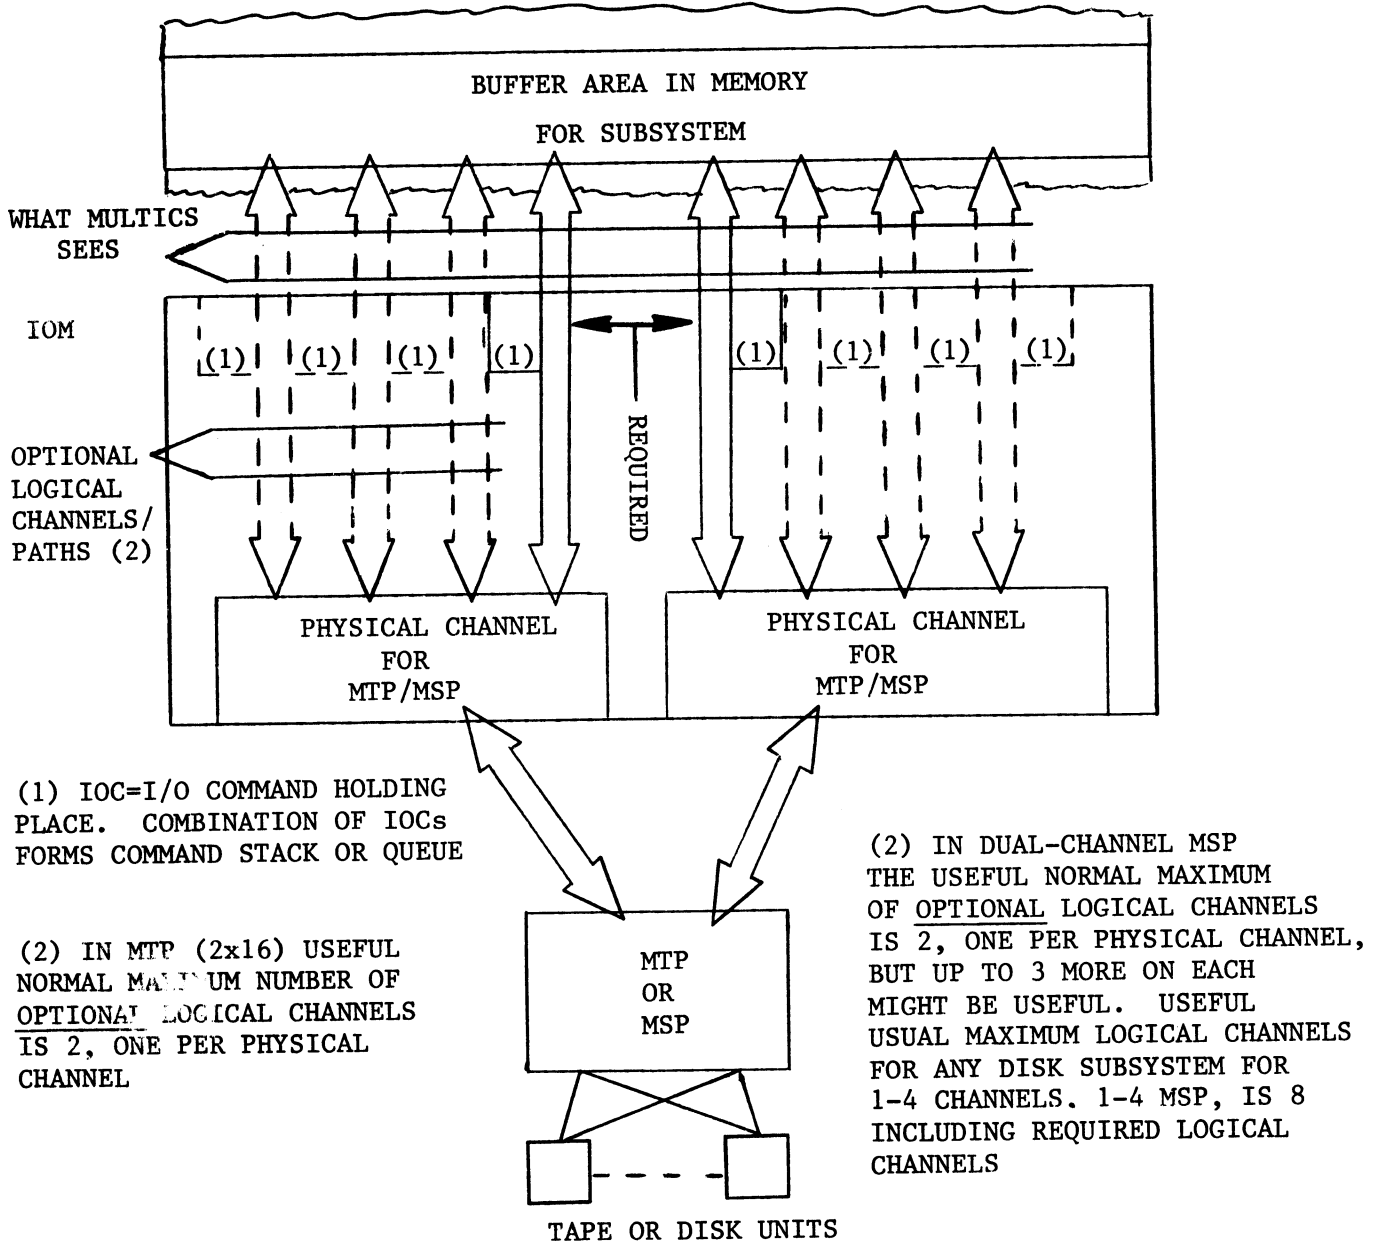

Figure 4-5. Dual-Channel MTP (2x16) or Dual-Channel MSP or Multi-MSP Subsystem
- b. Dual-channel MTP (2x16) or dual-channel MSP or multi-MSP subsystem. (See Figure 4-5.)